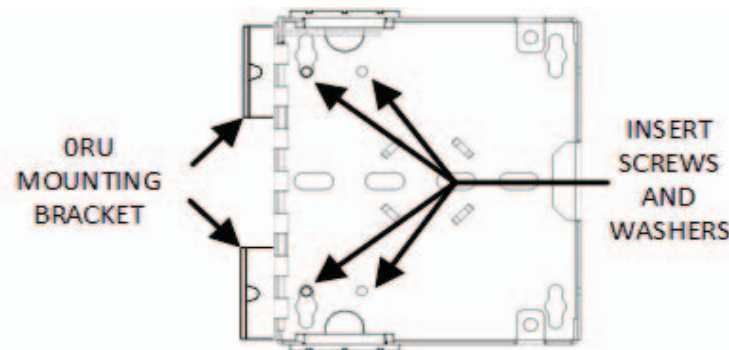

Figure 4
- 2) Install one mounting bracket each at the two corners using the #8 screws and washers provided in the mounting bracket kit. (Figure 4)